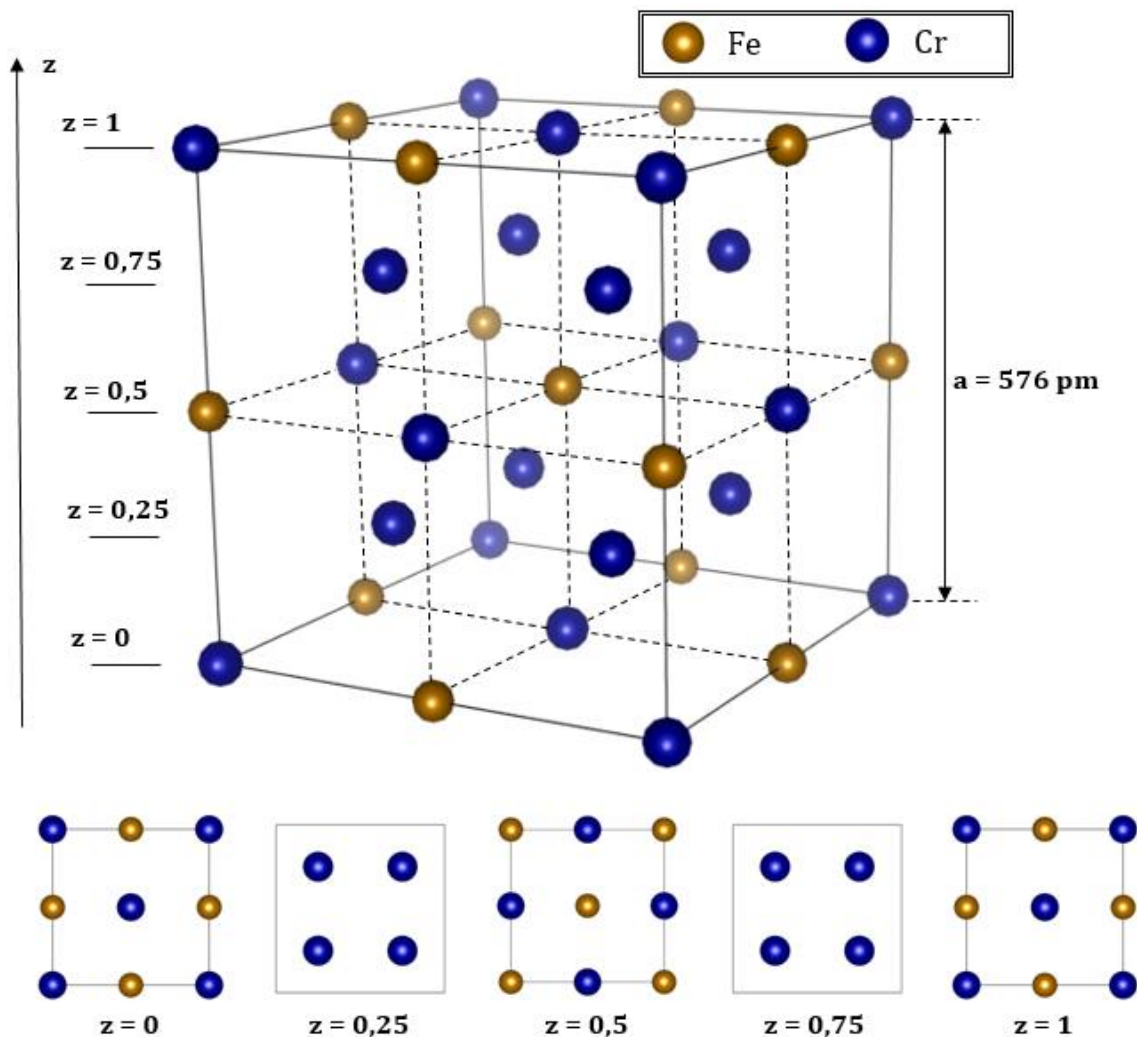

Fig. 1 Cubic cell of ferrochrome and its five planar projections along z axis.
One ferrochrome cubic cell and five planar projections, perpendicular to z axis, are shown in Fig. 1.
1. Assuming that the cubic cell given in Fig. 1 corresponds to the composition of whole material, calculate the x value in empirical formula $\text{Fe}_x\text{Cr}_{1-x}$.
2. The lattice parameter of the cell given in Fig. 1 is 576 picometers. Calculate the density of ferrochrome. Express the answer in $\text{g}\cdot\text{cm}^{-3}$ dimensions.